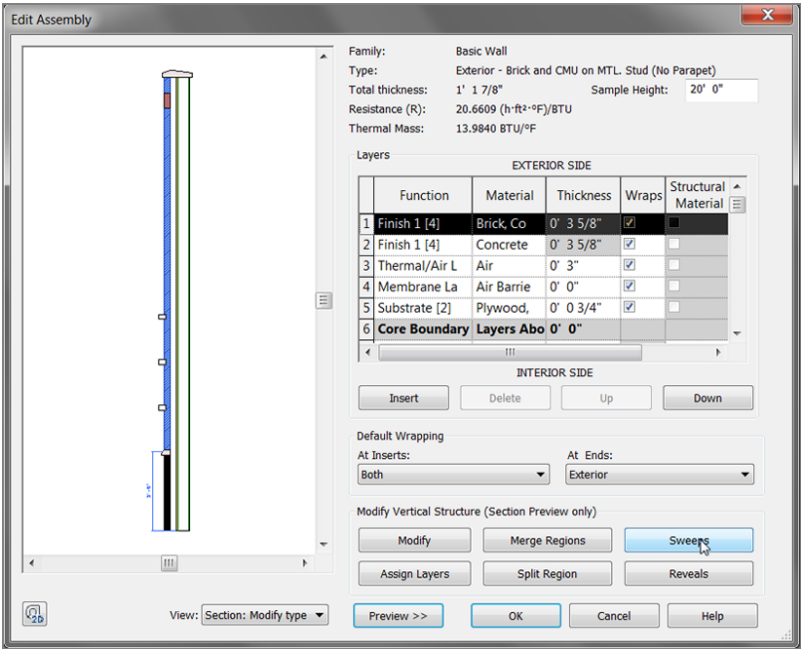

FIGURE 7.21: Without the Preview button selected and set to Section, you can't modify the parapet sweep.
7. In the Edit Assembly dialog box, make sure the Preview button is selected and the view is set to Section, as shown at the bottom of Figure 7.21.
8. Click the Sweeps button (see Figure 7.21).